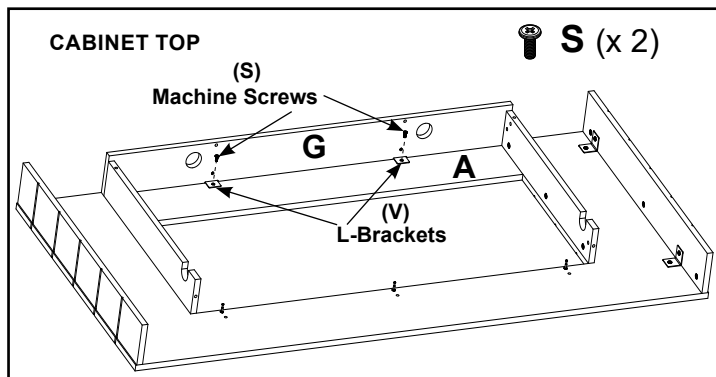

Figure 17
- Secure part "G" to part "A" using two (2) M6 X 5 screws (S) and two (2) L-Brackets (V). See Figure 17.